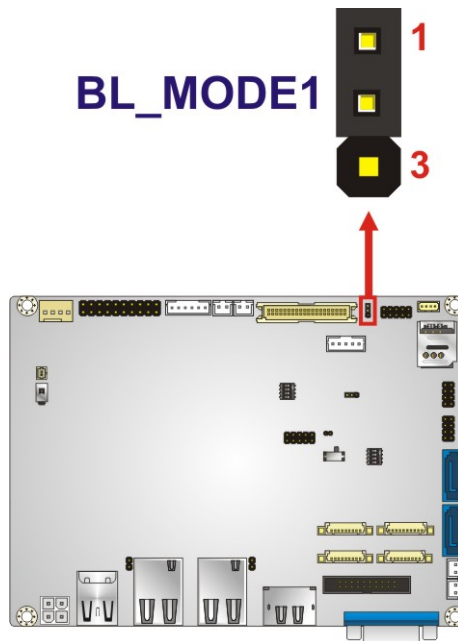

Figure 4-15: LVDS Backlight Mode Select Jumper Location
- Jumper Location:** See Figure 4-15